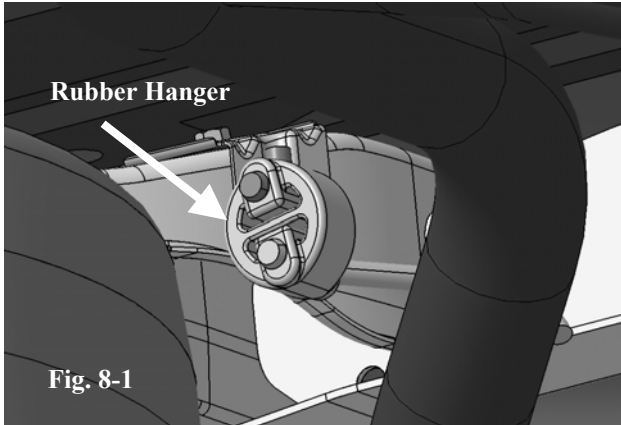

Fig. 8-1
- (a) Attach hanger rod of the TRD LH tailpipe assembly to the rubber hanger on the vehicle frame. (Fig. 8-1)